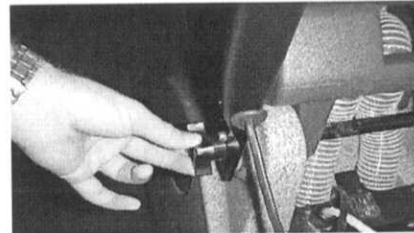

Figure 1
2. Adjust handle from transport position. To adjust, rotate handle knob to outward position and lift handle to desirable operating height, turn knob inward to lock handle (Figure 1).